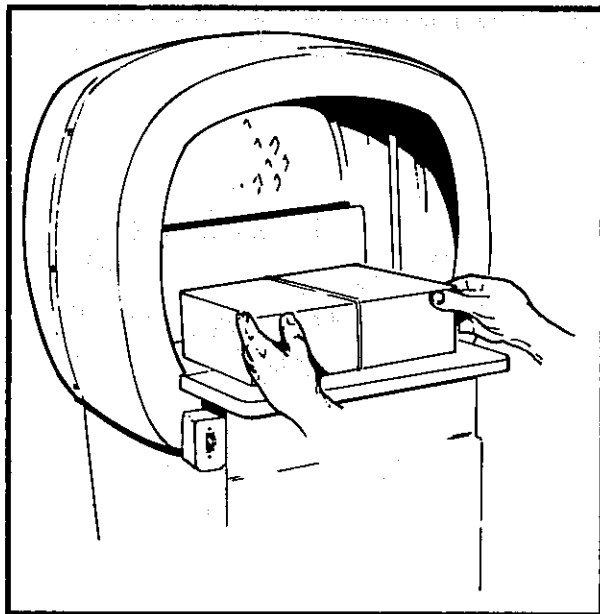

Figure 3. Positioning Package for Tying
3. Hold ends of package between thumbs and forefingers of both hands and position package on tying machine table so that right side of package is butted against standard or notch in front table (figure 3) and positioned over gap between front and back tables.